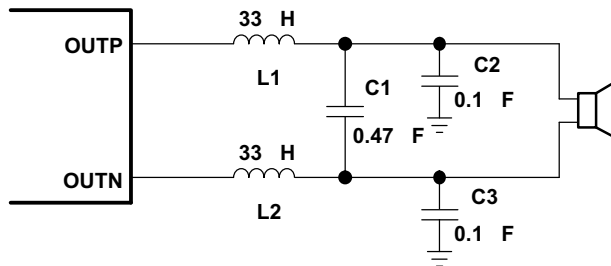
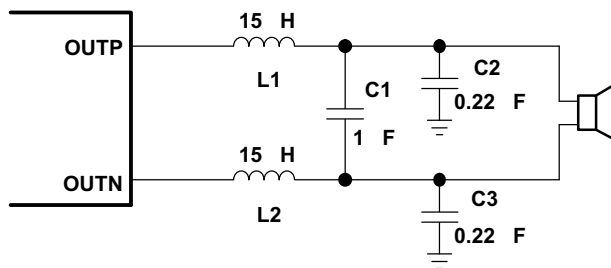
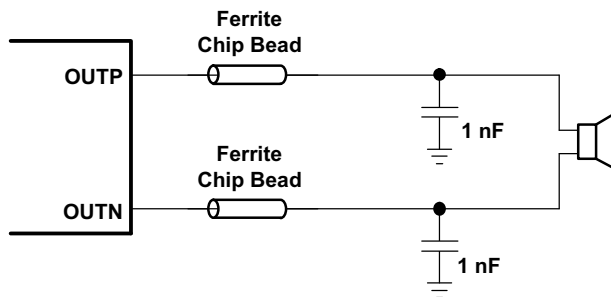
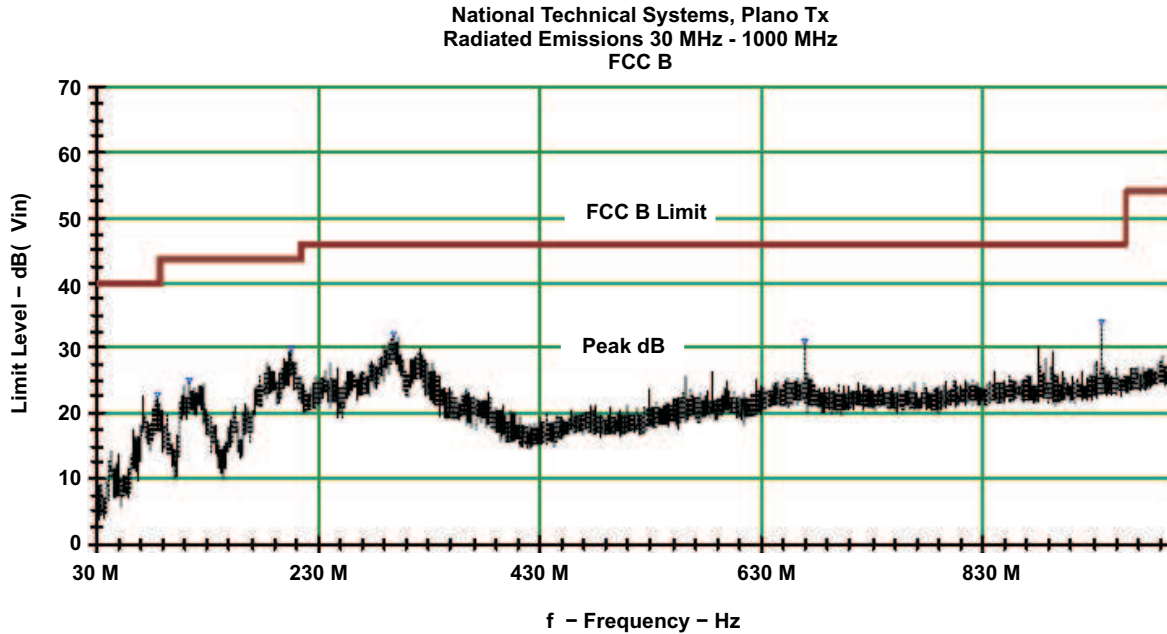

Figure 27. Typical LC Output Filter, Cutoff Frequency of 27 kHz, Speaker Impedance = 8 Ω
Figure 28. Typical LC Output Filter, Cutoff Frequency of 27 kHz, Speaker Impedance = 4 Ω
Figure 29. Typical Ferrite Chip Bead Filter (Chip Bead Example: Fair-Rite 2512067007Y3)
Figure 30. Radiated Emissions Prescan 30 MHz - 1000 MHz
Using the LC filter in Figure 27, the TPA3100D2 EMI EVM passed the FCC Part 15 Class B radiated emissions with 21 inch speaker wires. Quasi-peak measurements were taken for 4 configurations, and the TPA3100D2 EMI EVM passed with at least a 5.6-dB margin. A plot of the peak measurement for the horizontal rear configuration is shown in Figure 30.
- Output filter—The ferrite EMI filter (Figure 29) should be placed as close to the output terminals as possible for the best EMI performance. The LC filter (Figure 27 and Figure 28) should be placed close to the outputs. The capacitors used in both the ferrite and LC filters should be grounded to power ground. If both filters are used, the LC filter should be placed first, following the outputs.